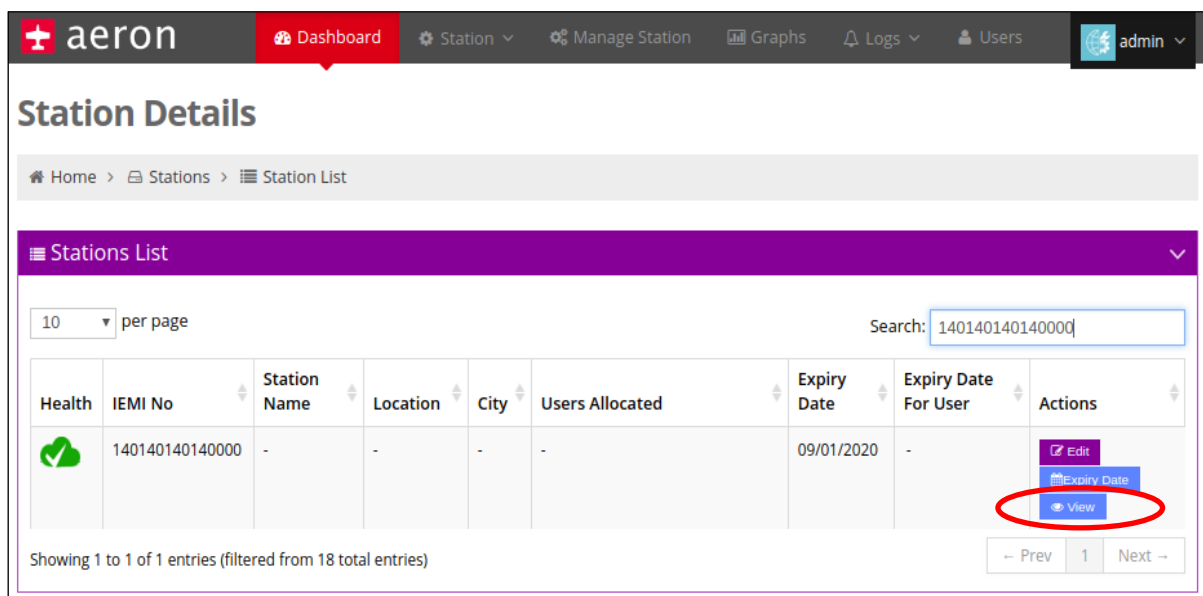

FIGURE 31: DEVICE SEARCH WITH USN
2. Click on **View** button in Actions column. Refer below **FIGURE 31**.